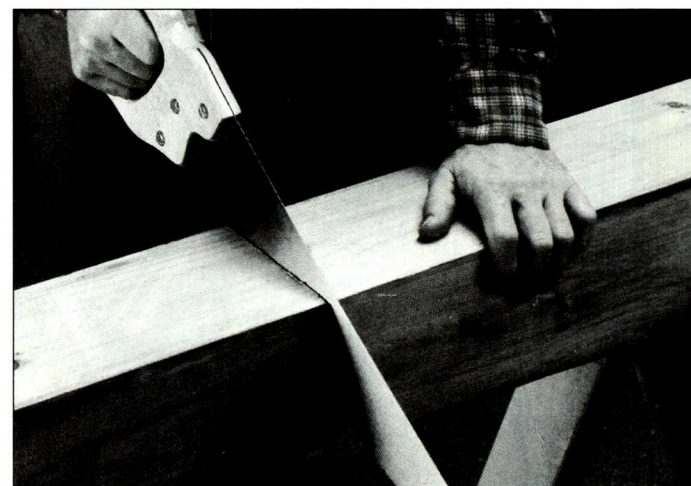

Figure 3: Complete the cut with a hand saw, since the power saw blade won't reach the center of a 6x6 post.
- On thick beams, use a handsaw to cut through the final nub of wood in the center (Figure 3).